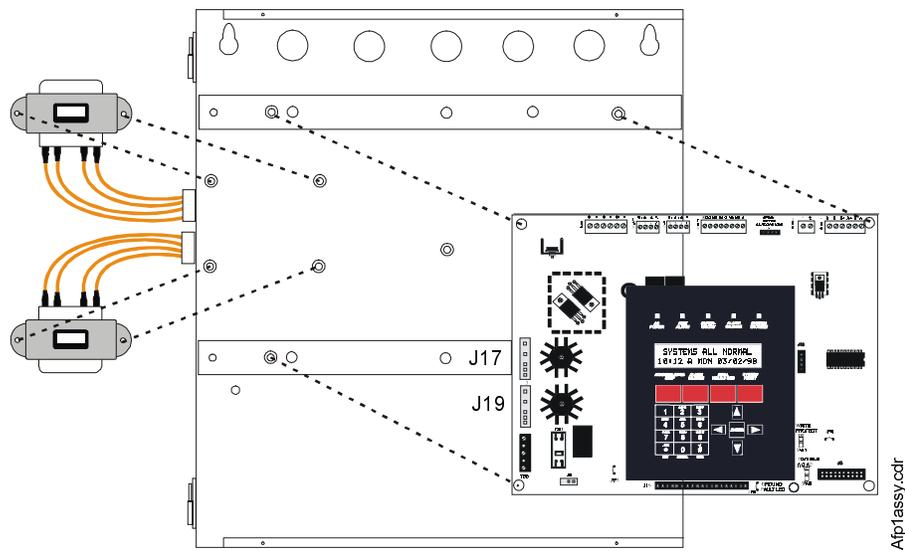

Figure 7 Component Mounting
- 2 Mount the transformer(s) to the backbox studs as shown in Figure 7.
- 4 Position the Main Circuit Board over the backbox rails, aligning mounting holes, as shown in Figure 7.
- 5 Secure in place with four (4) screws. Tighten securely.
Figure 7 shows transformer and main circuit board mounting into backbox.